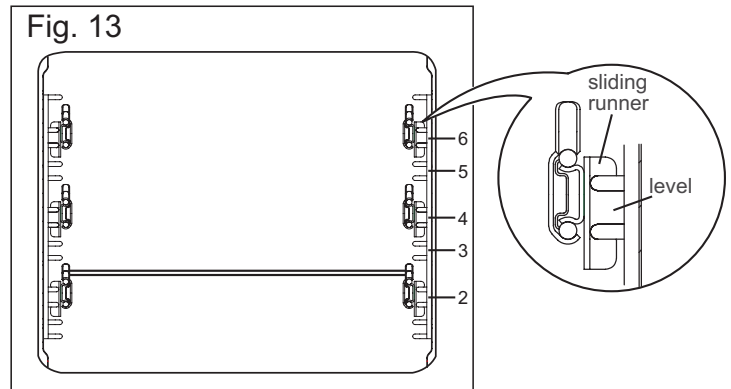

Fig. 13
**Note:** the sliding runners must be placed at levels 2 - 4 - 6 only (fig. 13).